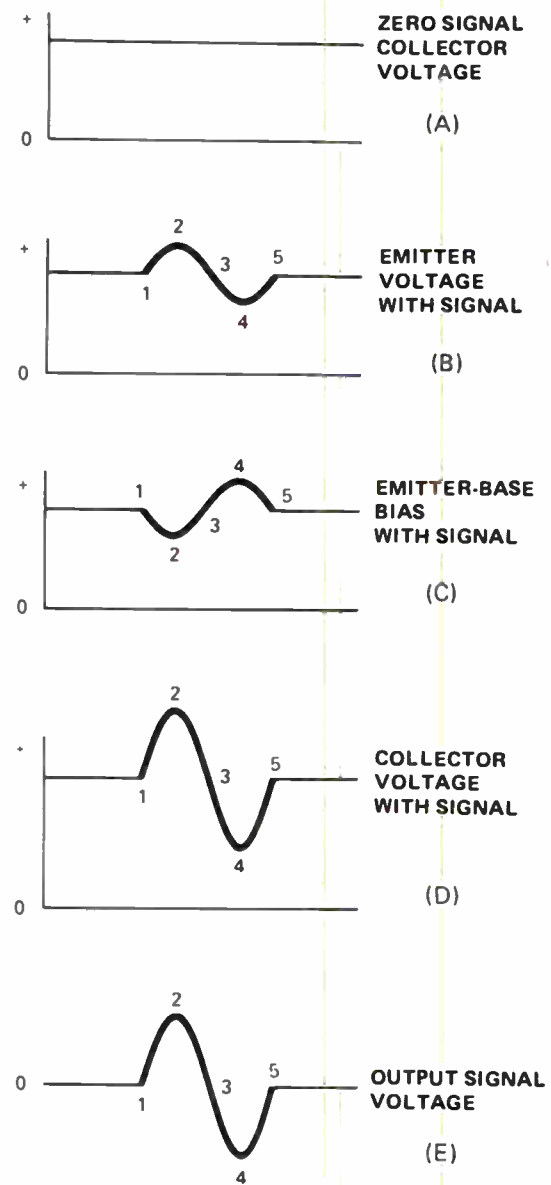

Figure 11. Waveforms for circuit shown in Fig.1.
With zero signal input, the collector voltage is constant as shown in the waveform of Fig.11(A). The emitter and base voltages are also constant. The emitter voltage is positive; the base voltage is positive and greater than the emitter voltage in order to forward bias the emitter-base junction. The waveform of Fig.11(B) shows what happens to the emitter voltage with a single cycle of an input signal. With the first half-cycle, when the input signal is positive, the voltage increases from the zero signal value at point 1 up to point 2 where it reaches peak positive value. Notice that the signal voltage adds to the emitter voltage.
across the emitter-base junction. This is shown in the first half-cycle of the waveform of Fig.11(C). In contrast, during the next half-cycle, as the emitter voltage decreases, forward bias of the emitter-base junction increases. If the emitter voltage emitter goes from 1 V to 0.5 V during the negative half-cycle, forward bias of the emitter-base junction increases from 1 V to 1.5 volts. This is shown in the second half-cycle of the waveform in Fig.11(C).
When the forward bias decreases, as it does during the first half-cycle of the input signal, current through the transistor decreases. Collector current decreases, and so does the voltage drop across R2. When the voltage drop across R2 decreases, the voltage measured between the collector and ground increases as shown in the first half-cycle of the waveform in Fig.11(D). During the next half-cycle, when forward bias increases, current through the transistor increases. This raises the voltage drop across R2. The voltage measured between the collector of the transistor and ground goes down as shown between points 3, 4, and 5 of the waveform in Fig.11(D).
With an input signal there exists an output signal like the one shown in Fig.11(E). Compare the output signal with the input signal. Notice that the output signal is larger, so there is voltage amplification. Also notice that it swings positive when the input signal swings positive. There is no phase reversal between the input and output signals as is the case for a common-emitter circuit. In common-base circuits, the amplified output signal is in phase with the input signal.